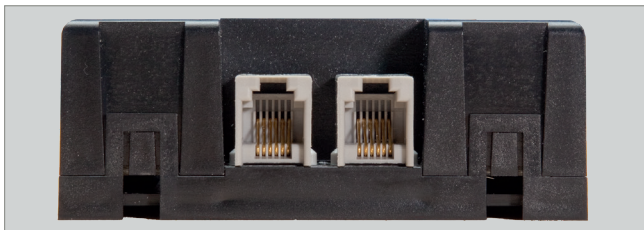

Fig. 11: LocoNet socket on expansion module
- ▶ Next, connect the LocoNet cable to one of the LocoNet ports of the second module, see Fig. 11.